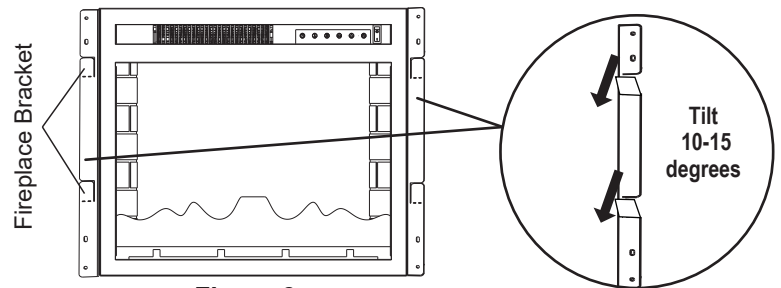

Figure 2
2. Find the fireplace brackets on the sides of fireplace and tilt them 10-15 degrees toward the front. [Figure 2]